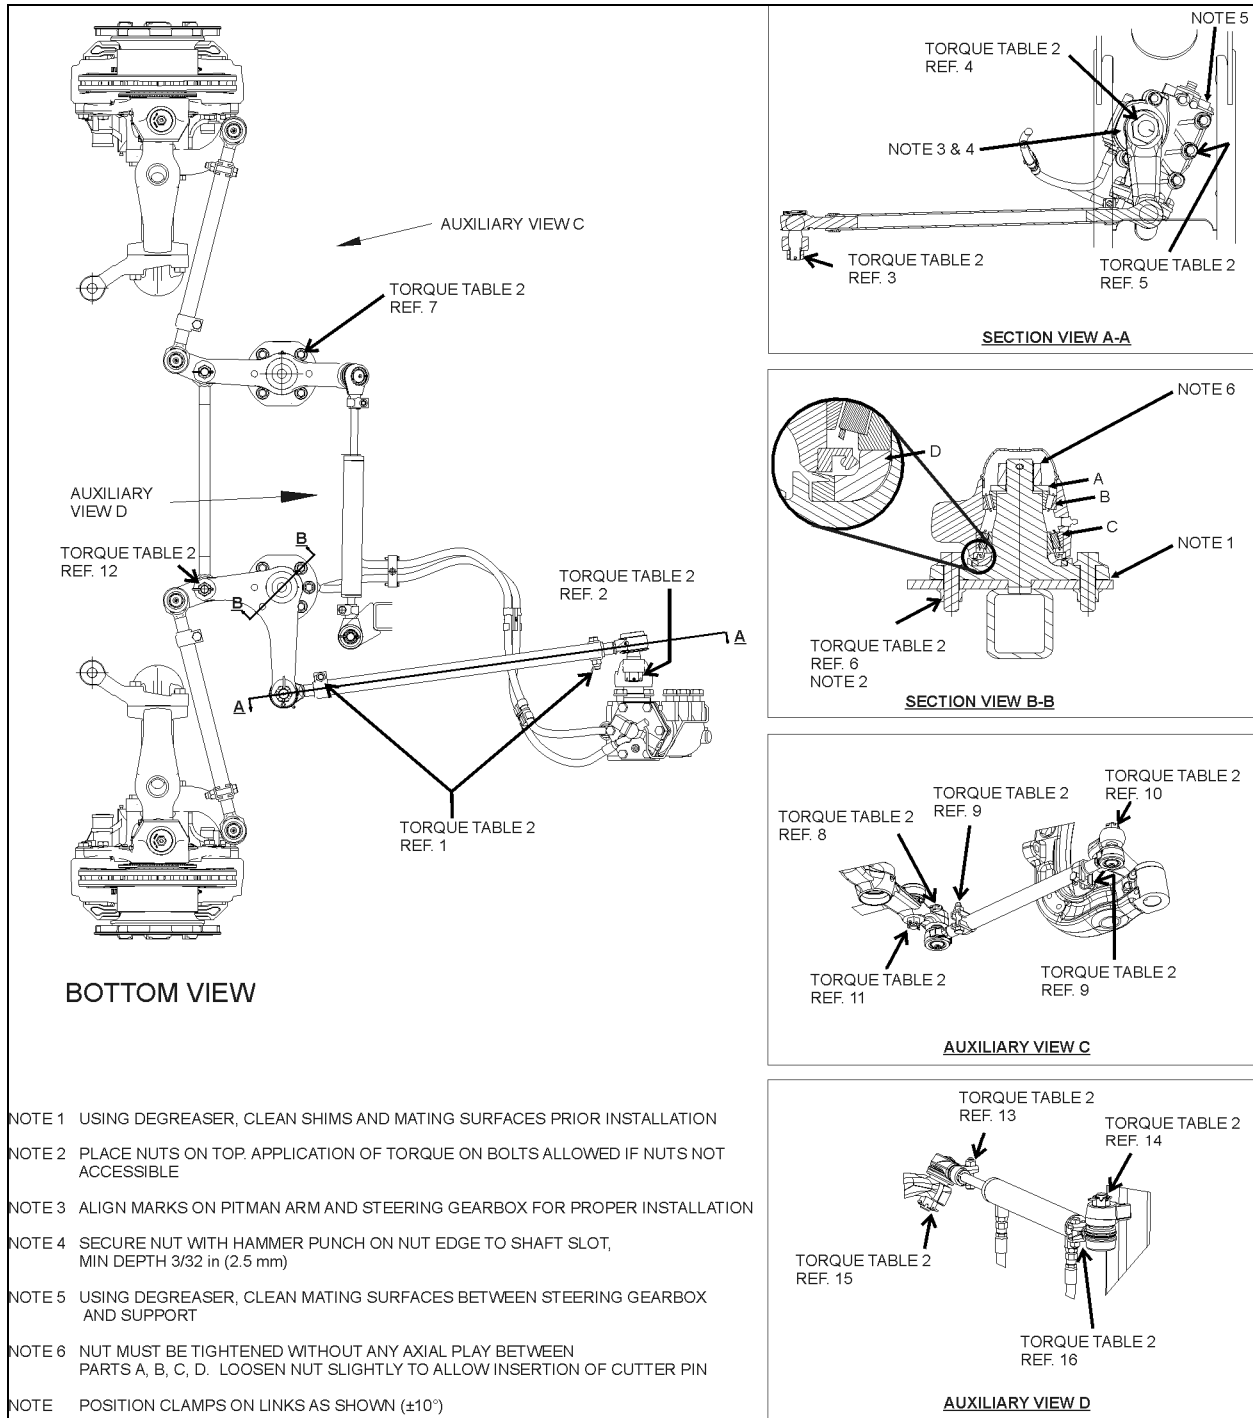

FIGURE 11: IFS STEERING LINKAGE
3. While performing a full left and right turn, check for proper position of the tie rod end clamp bolt and nut and drag link end clamps in order to avoid clamps interfering with close parts. Refer to figure 11 for location and positioning of